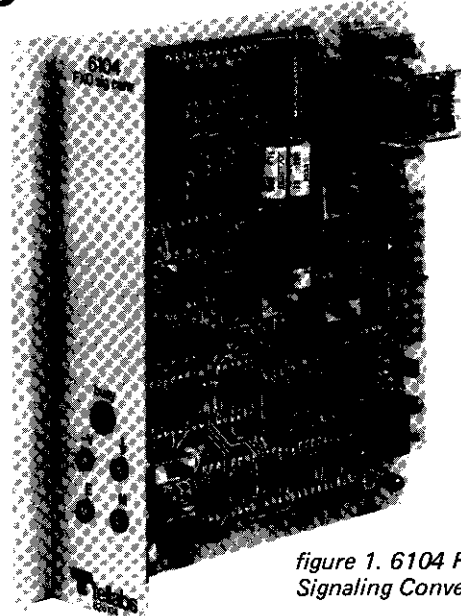

figure 1. 6104 FXO Signaling Converter
1.01 The 6104 FXO (foreign exchange, office-end) Signaling Converter module (figure 1) provides conversion between E&M-lead signaling and loop signaling conventionally used at the office end of a foreign-exchange (FX) or at the PBX end of an off-premises station (OPS) circuit. Specifically, the 6104 converts E-lead signals to loop signaling for operation of the switching equipment and converts loop supervisory and ringing signals from the switching equipment to M-lead outputs. The 6104 may be used alone as a carrier interface device, or may be paired with either a Tellabs 6101 SF Transceiver module or a Tellabs 6001 or 6002 DX Signaling module. The resulting two-module signaling circuit provides facility signaling, loop signaling, and conversion between the two signaling modes at the office end of an FX or at the PBX end of an OPS circuit.